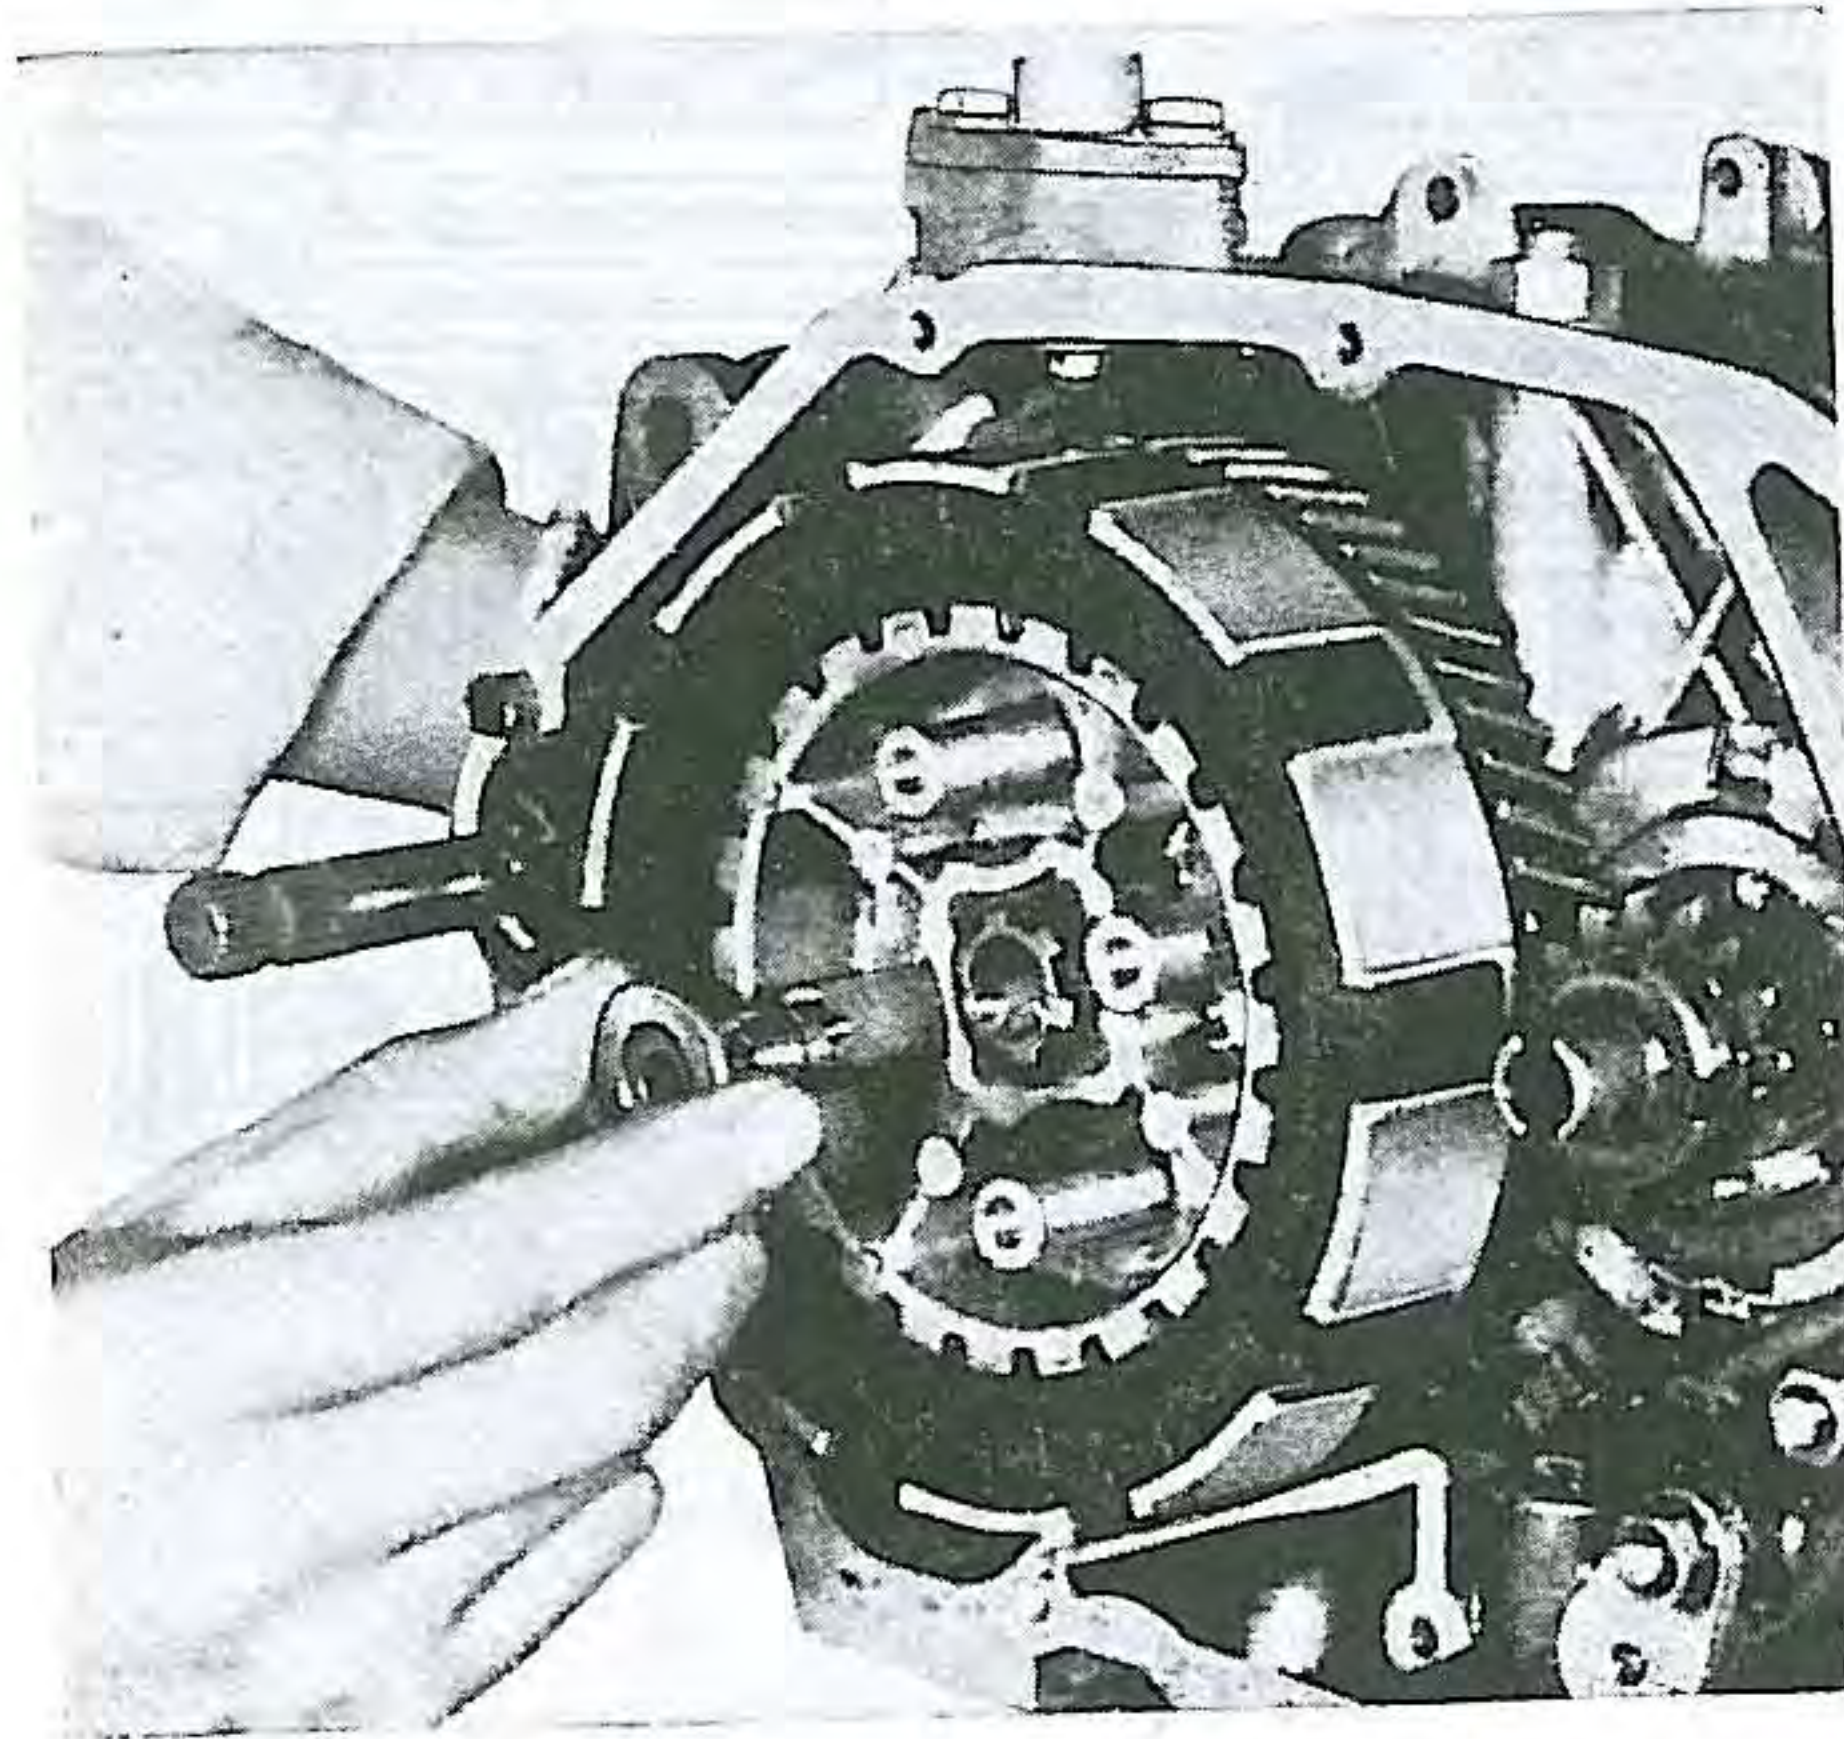

Fig. 76. Removing clutch lifter join
- (4) Draw out the clutch lifter joint piece (Fig. 76) and the clutch lifter rod complete.